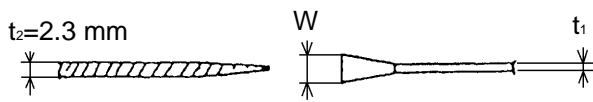

**Fig. 18**
- (1) Loosen clamp handle (B) and place a square against both the saw blade and the miter gauge. The pointer should indicate 90° on the protractor scale on the miter gauge.
- (2) If the pointer does not indicate 0 on the miter gauge,
- ① Tighten clamp handle (B).
- ② Loosen the 5 mm machine screw on the sheet bar.
- ③ Adjust the pointer to the 90° position and tighten the 5 mm machine screw on the sheet bar (see Fig. 18).
- ④ After adjustment, recheck to see that the pointer now indicates 0.